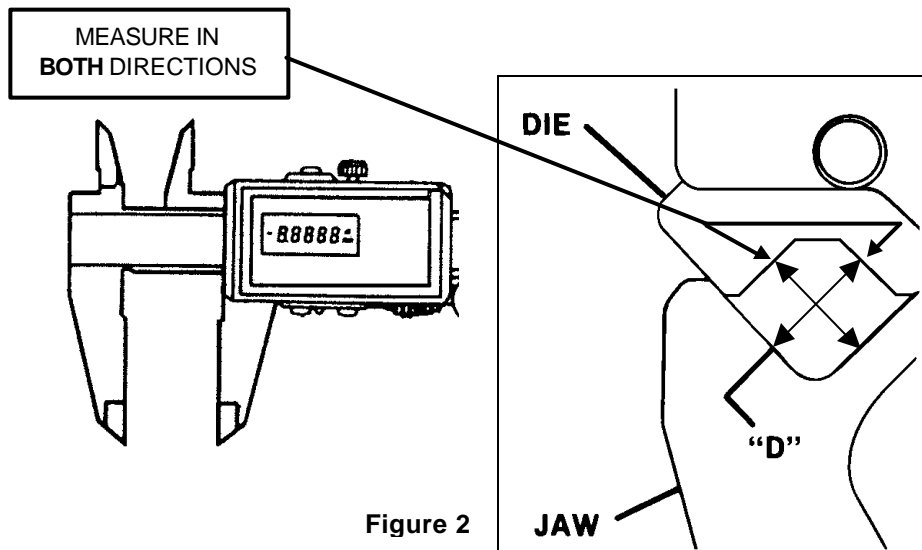

Figure 2
3. Using precision calipers, measure the die pocket (ensure the measurement is taken across the parallel surfaces of the die) as shown in Figure 2.